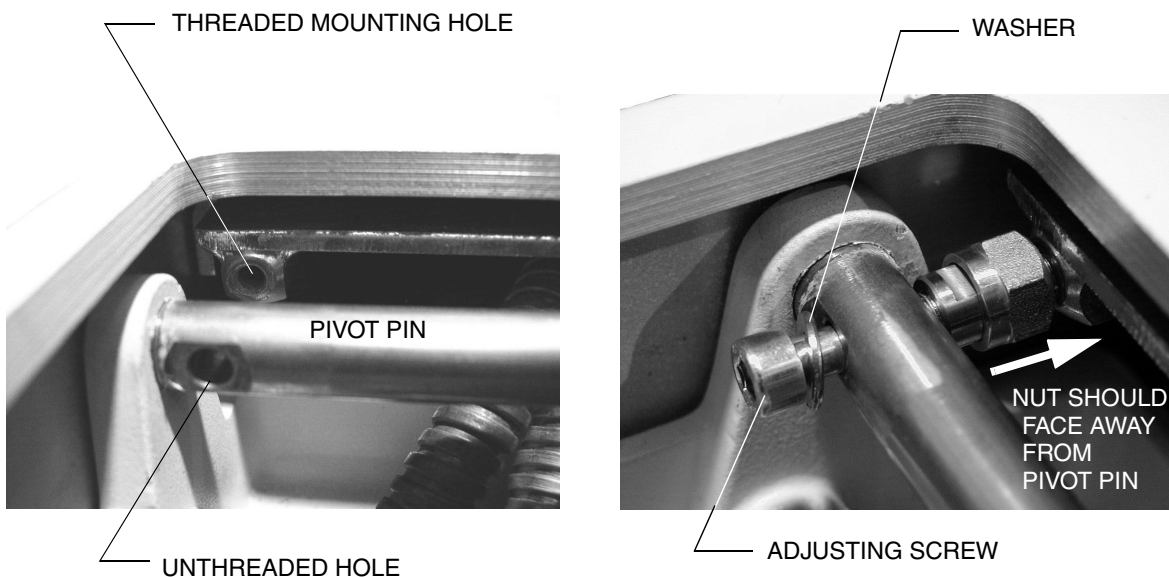

FIGURE 4. New Hardware Assembly
5. Place a washer on the adjusting screw and install it in the pivot pin - and through the bushing/nut assembly as shown in Figure 4. thread the screw into the mounting hole until snug. Pay special attention to orientation of the bushing/nut assembly.
8. Tighten both adjusting screws (ref. Figure 4) until the carrier is level.